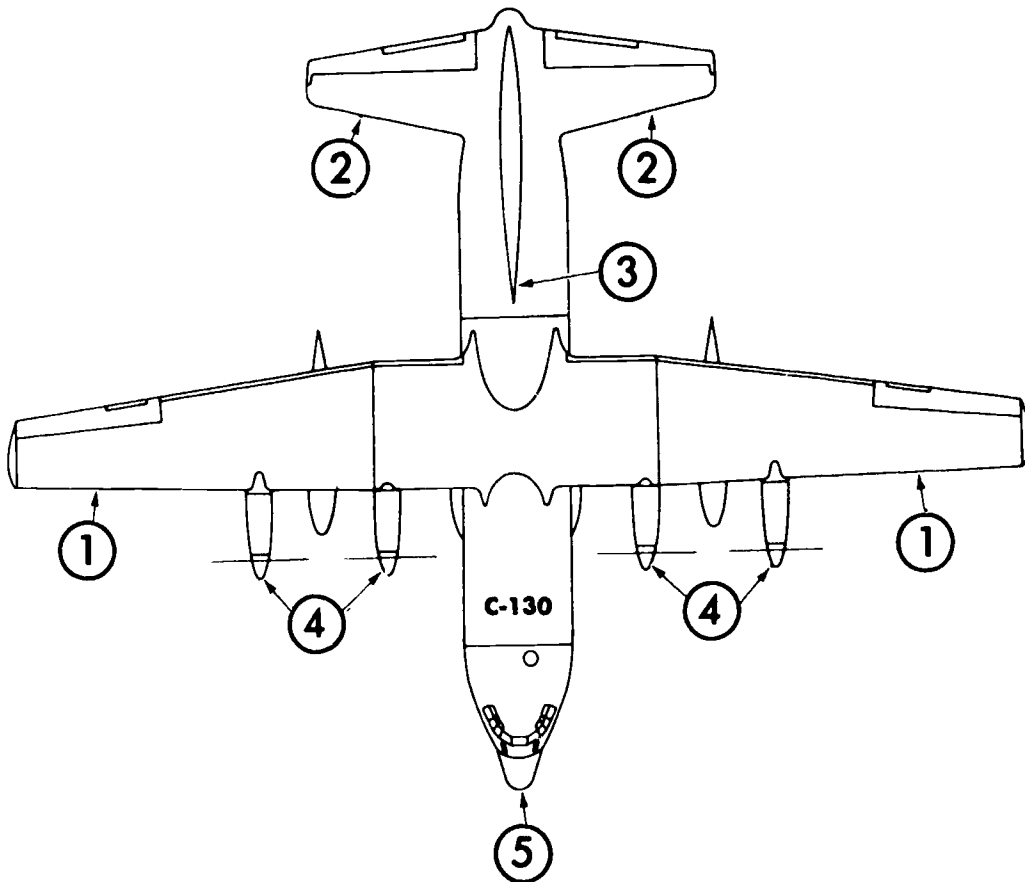

Figure 1.
Figure 1 shows the main areas that are anti-iced on this aircraft. These areas include: (1) the leading edge of the wings, (2) the leading edge of the horizontal stabilizer, (3) the leading edge of the vertical stabilizer, (4) the engine inlet air duct and (5) the radome.